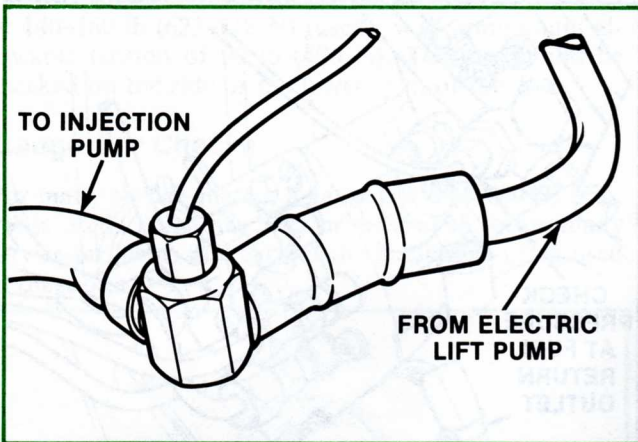

Figure 98. Lift Pump Output Pressure
8. Output pressure of the electric lift pump is checked at the lift pump outlet (Fig. 98) using the 0-15 psi gauge. The pressure from the electric lift pump should not exceed 5.6 psi (39 kPa). The range is 1 to 5.6 psi (7 to 39 kPa).